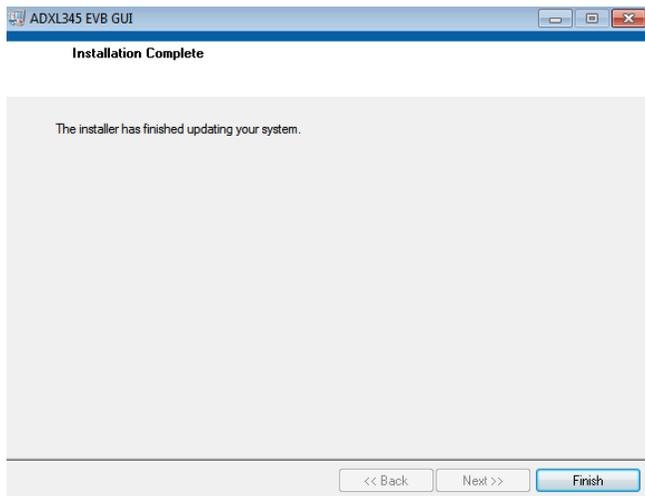

Figure 13. ADXL345 EVB GUI Installation Complete
4. To start the installation, click **Next**. The installer completes installation of the software evaluation GUI and all required National Instruments drivers and run-time engines. After the installation is complete, the box shown in Figure 13 is displayed.